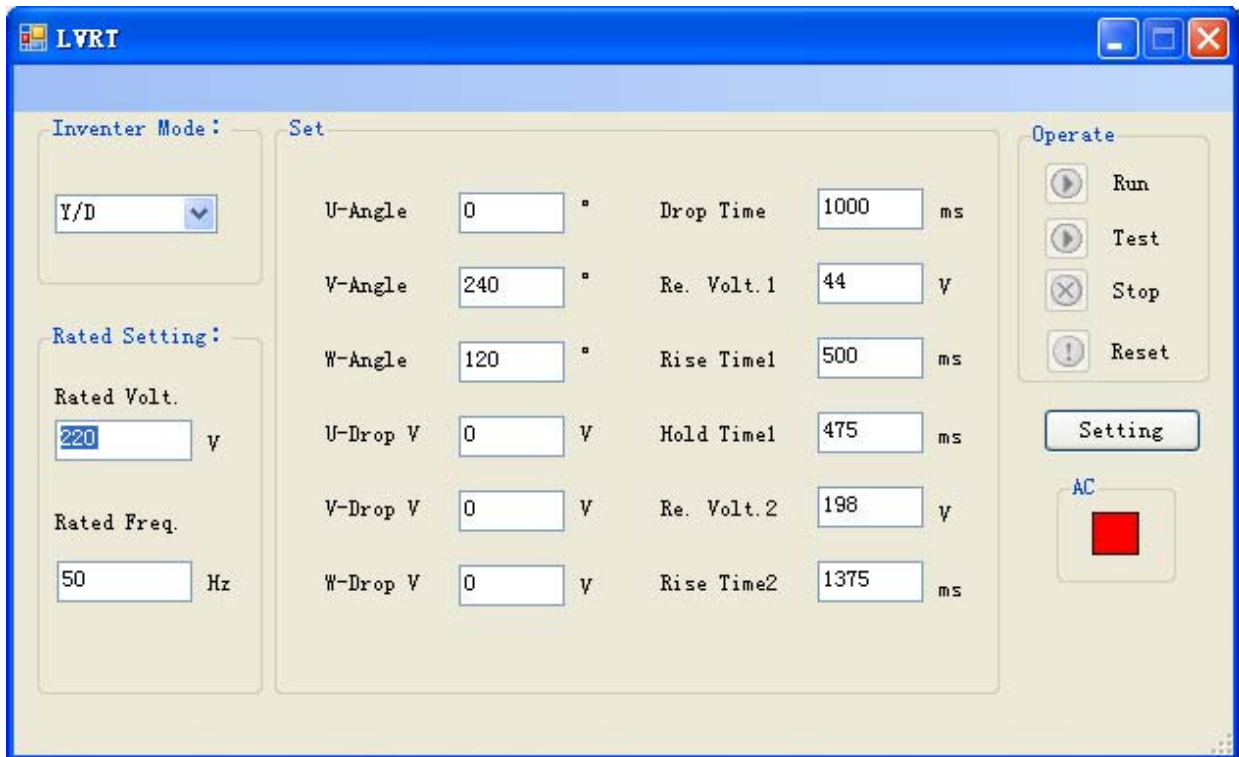

Fig. 5-13 Menu of “LVRT” mode under remote control
- (3) In the menu of “Industry Apply”, click on【LVRT】will bring you to the menu of “LVRT” mode, as shown in Fig. 5-13: